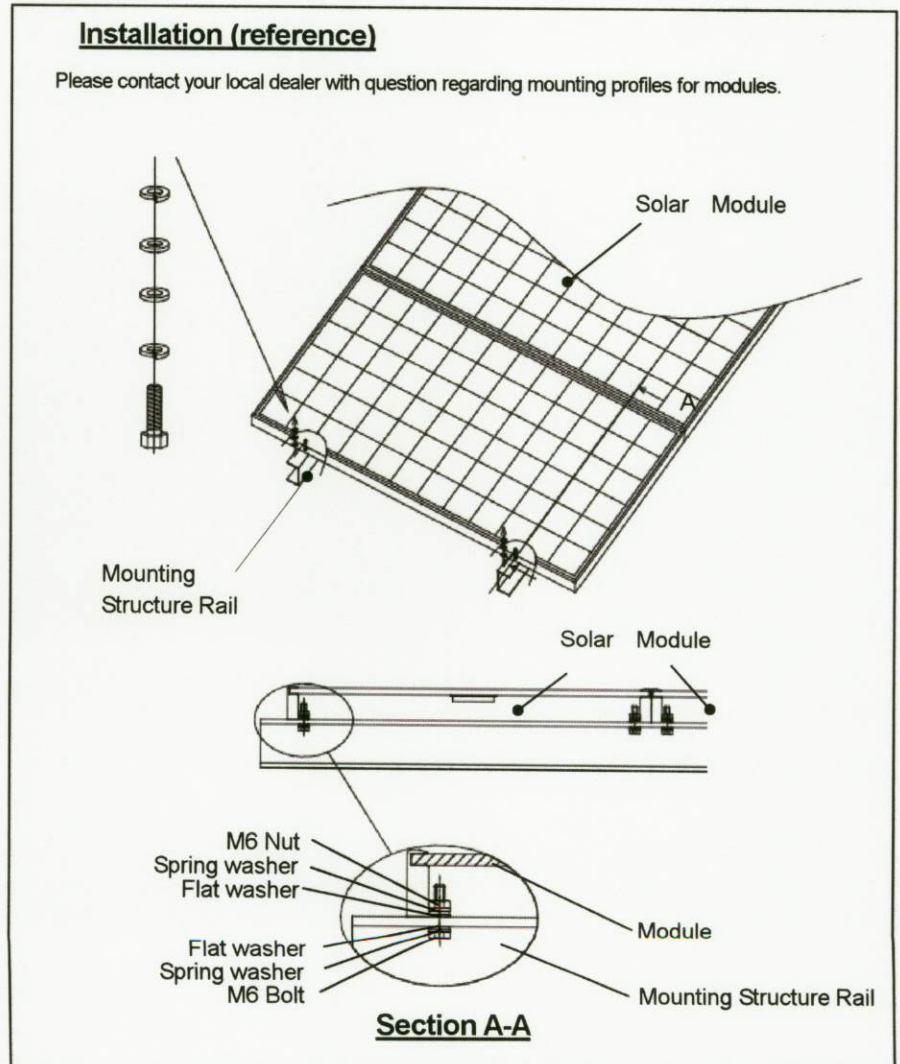
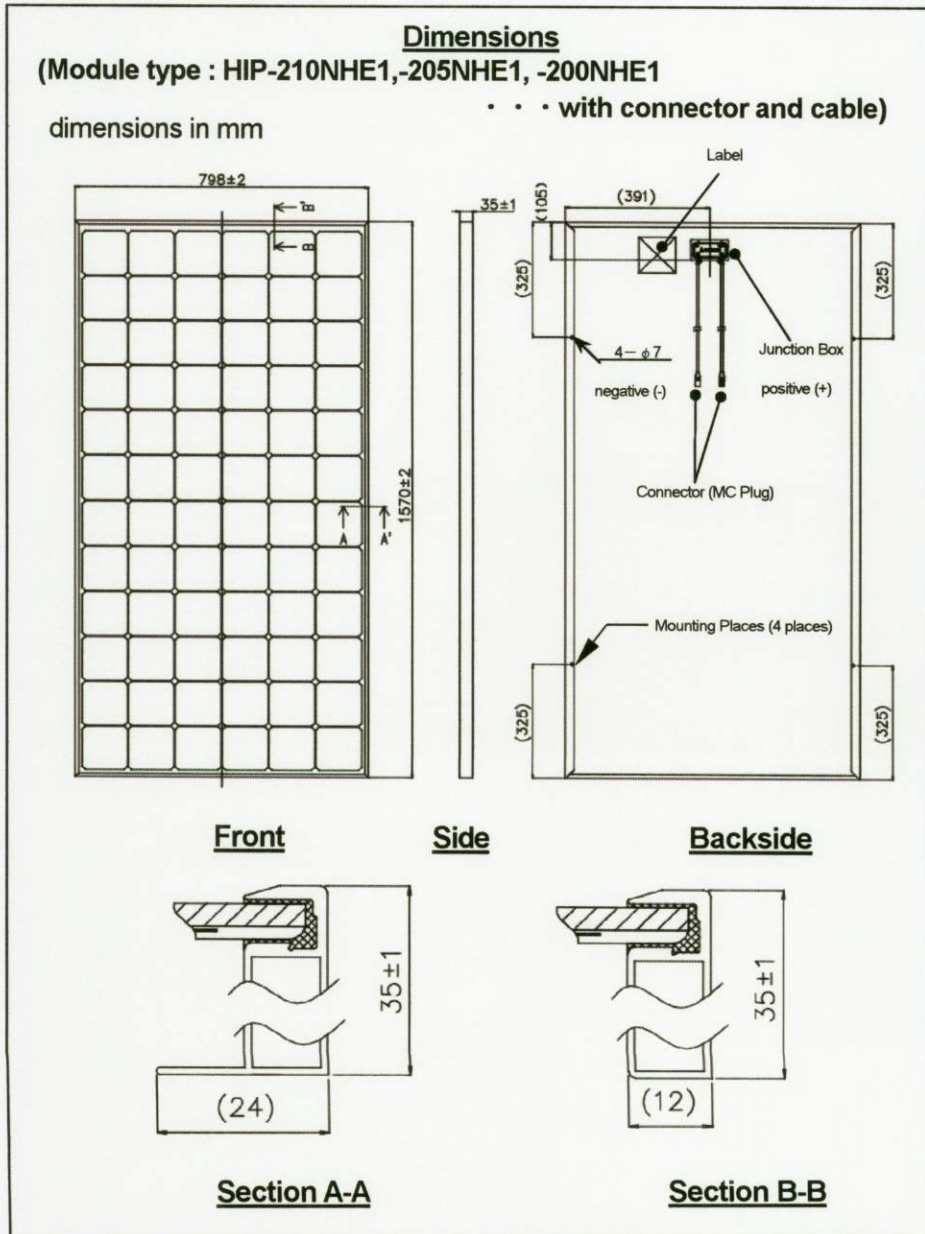

Figure1: Installation
Figure2: Dimension
- We recommend installation method shown in Fig1.
The modules should be mounted at the 4 or more points as shown in Fig1, Fig2. Then, a maximum loading of 2170N/m² (45PSF, in static state) on the module surface is possible.